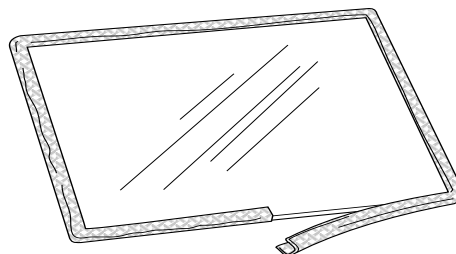

Figure 12.2. Wrap the gasket around the glass panel.
1. Wrap the new gasket material evenly around the edge of the glass, peeling back the protective strip to expose the adhesive as you go. See fig. 12.2. Press the adhesive side down onto the glass surface. Do not stretch the gasket.